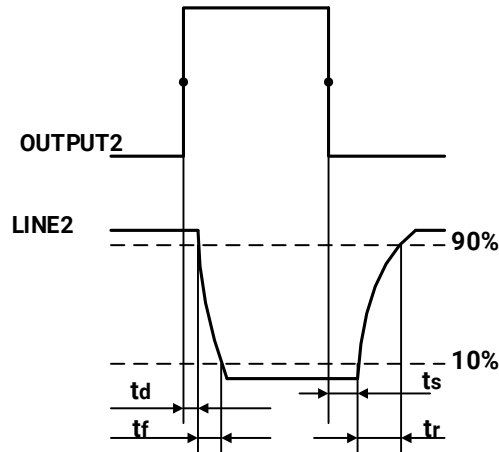

Figure 7-28 Parameter of Line2 output circuit
- Rising time delay = t_r+t_d : $<20\mu\text{s}$ ($0^{\circ}\text{C}\sim 45^{\circ}\text{C}$) (parameter description as shown in Figure 7-28)
- Falling time delay = t_s+t_f : $<20\mu\text{s}$ ($0^{\circ}\text{C}\sim 45^{\circ}\text{C}$) (parameter description as shown in Figure 7-28)